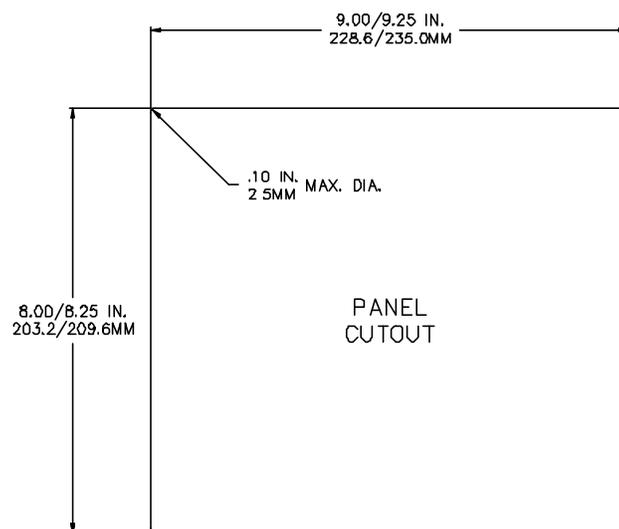

Figure 2-7: 560 and 562 Panel Mount Cut-Out
1. Make a cut out in the panel using the dimensions shown in Figure 2-7. The corners are typically 0.1R maximum.